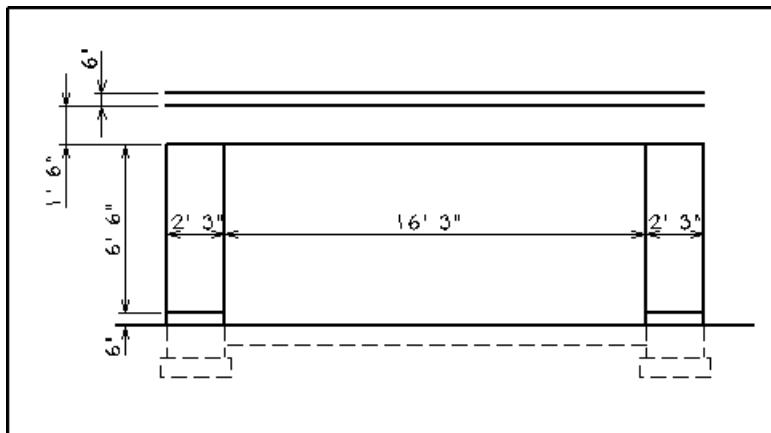

Figure P12-5 Garage wall and door detail
STEP 2: Use Figure P12-5 as a guide to draw the garage wall and door. Use the Place Block tool to create the outline of the brick wall on each side of the garage door.